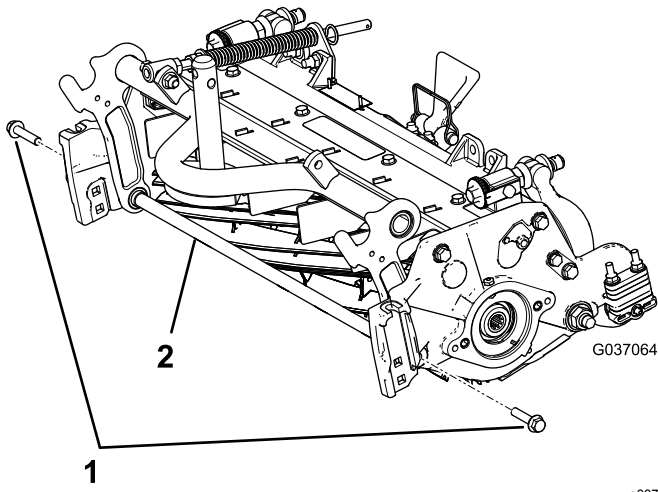

Figure 5
- A. Remove the 2 flange-head bolts securing the support rod, and remove the support rod (Figure 5).